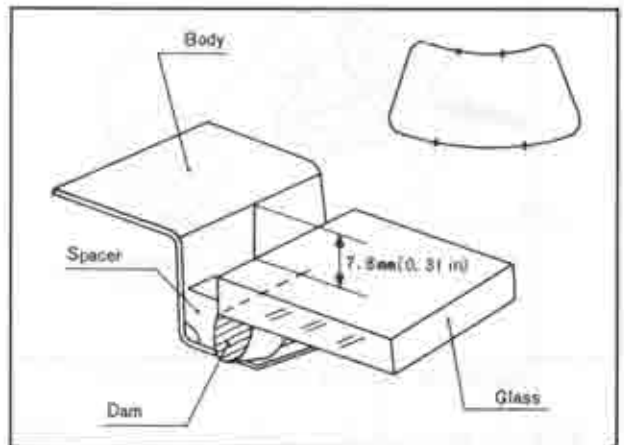

Fig. 14-39 Adjusting clearance
4. When installing the glass, 7.8 mm (0.31 in) clearance should exist between the body and the glass. Check the clearance at the four portions shown in Fig. 14-39.